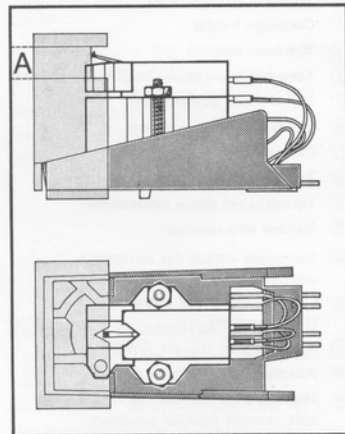

Fig. 16
3. The cartridge is correctly mounted when the notch in the mounting gauge encloses the stylus tip, and when the stylus tip, viewed from the side, is within the area "A" (Fig. 16).